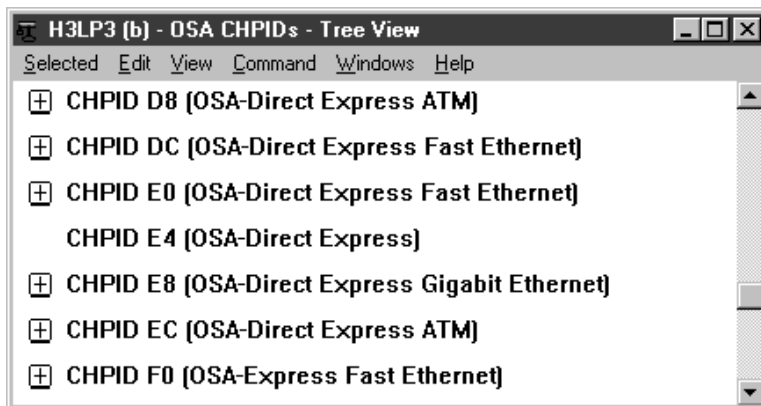

Figure 58. OSA Channels for H3LP3
- ___ 4. Follow the instructions until the **OSA Channels View** is displayed. See Figure 58 on page 112.